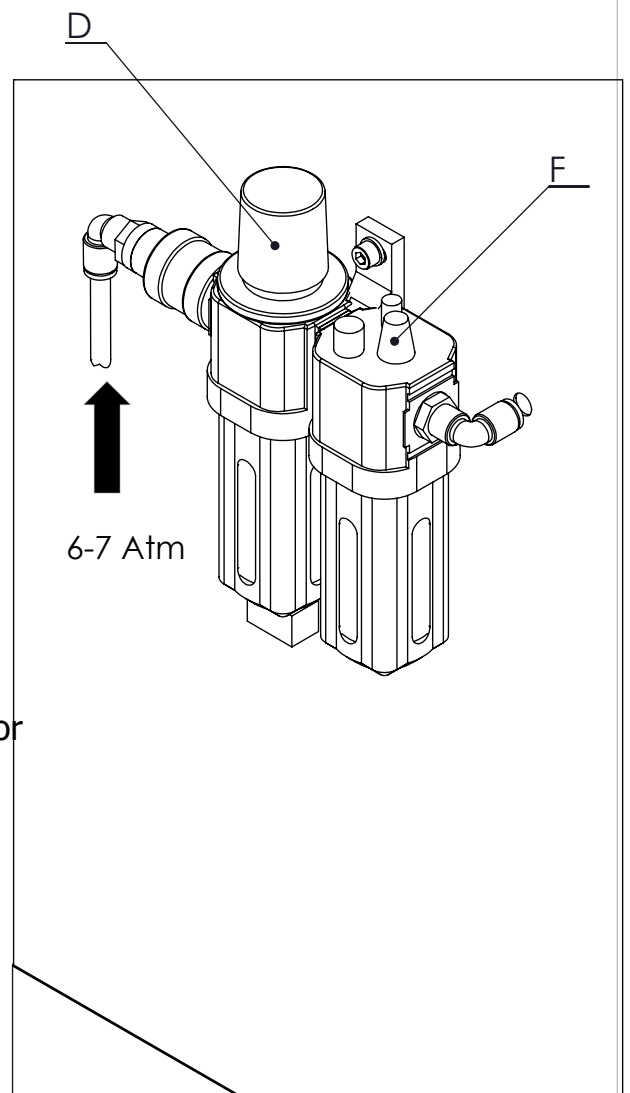

Figure 1
We disclaim all responsibility for damages resulting from the use of oil other than the one specified.**(figure1)**
Every 40-50 cycles ,make sure that Lubricator releases a drop of oil.Adjust it by using (F) screw. (Figure1)